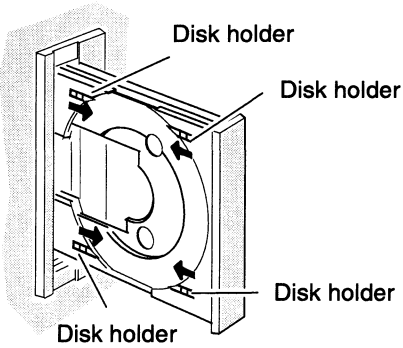

Figure 13 Positioning the 4 disk holders for vertical operation
- 3. Make sure all four disk holders (Figure 13) are positioned so that they support the CD-ROM disk.
The disk holders (Figure 13) support the CD-ROM disk when the drive operates in the vertical position. To work properly, you must slide all four of them toward the loading area. Leave them in this position as long as you operate the drive in the vertical position.